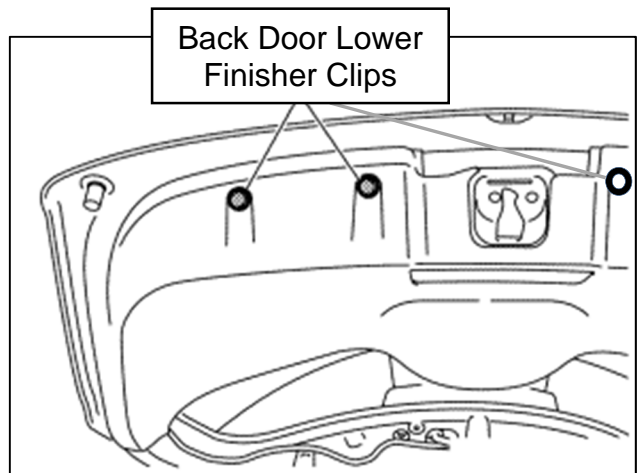

Figure 9
- a. Apply protective tape (A) on the parts to protect them from damage.
- b. Remove the three (3) back door lower finisher clips (Figure 9).